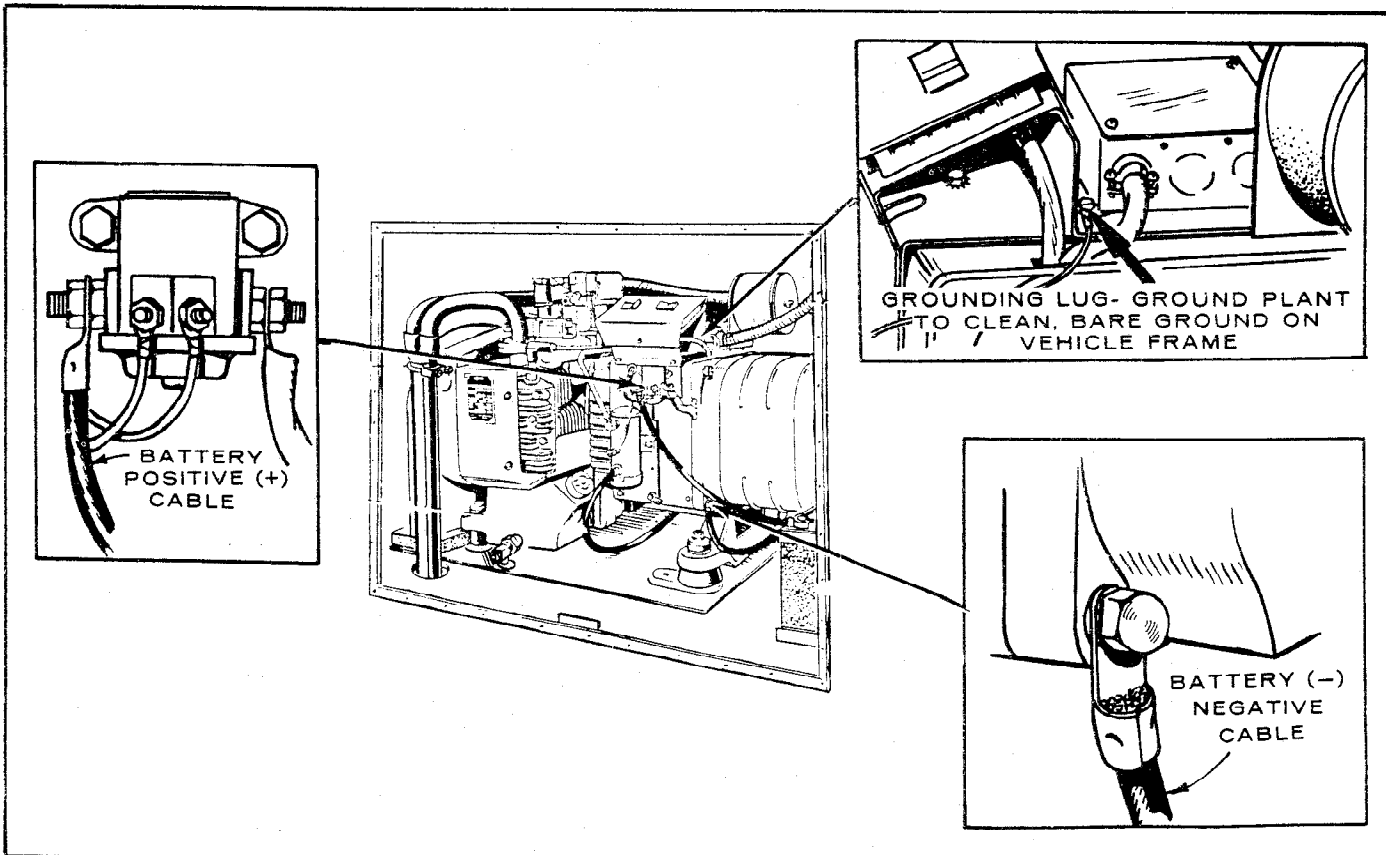

FIGURE 3. BATTERY AND GROUND CONNECTION
Connect the positive (+) battery cable to the start solenoid. Connect the negative (-) cable to the generator through-bolt. Refer to Figure 3.
**Ground (Generator to Vehicle):** A solderless terminal is provided between AC output box and control on top side of unit. Connect a ground between this terminal and clean, bare metal on vehicle frame. See Figure 3.